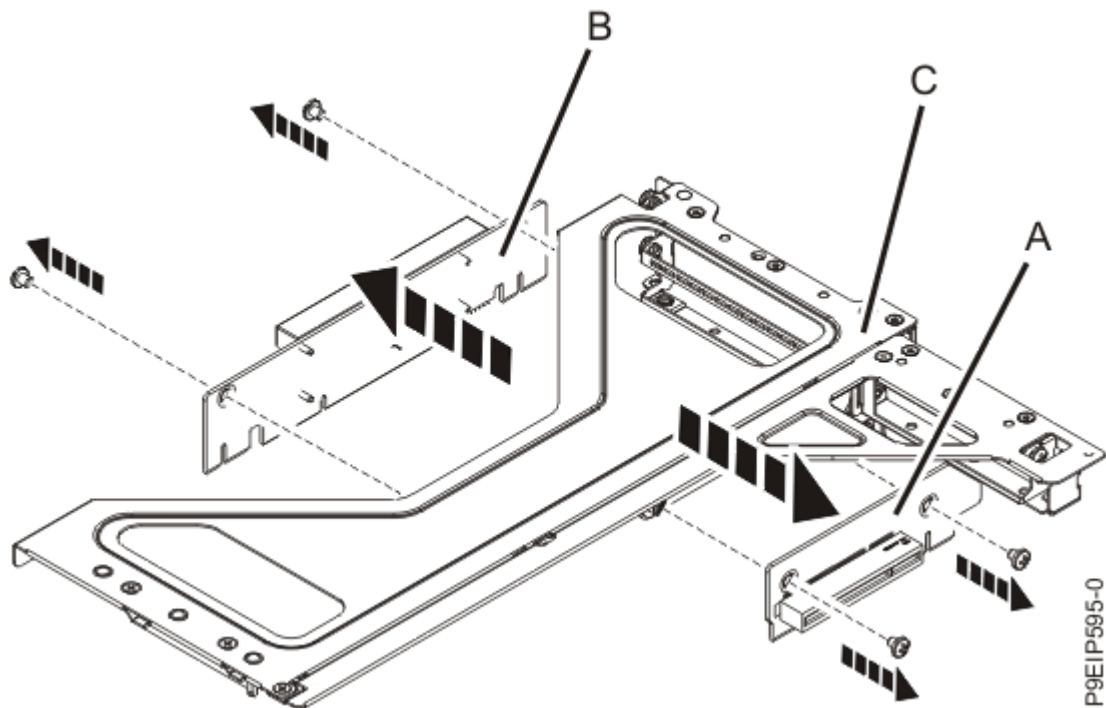

Figure 26. Removing the PCIe riser cards from the PCIe adapter cage
7. If you need to remove the PCIe riser cards (A) or (B); remove the screws that secure the PCIe riser card to the PCIe riser support (C) as shown in Figure 26 on page 32.